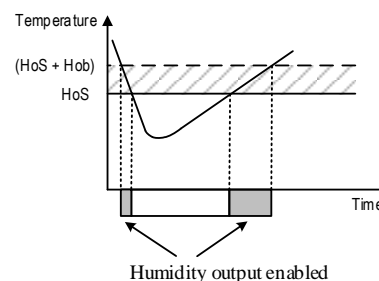

Figure 6. When the humidity output delay mode is **HdM** = 2, the humidity output is allowed only when the temperature is within the range set by **HoS** and **HoD**.
**Note 10.** The parameters **HoS** and **Hob** set up a temperature range within which the humidity output is enabled. **HoS** defines a temperature set point for enabling humidity output, i.e., a lower boundary; and **Hob** defines the temperature band. Please see the diagram in Figure 6 for how these two parameters affect the humidity output.